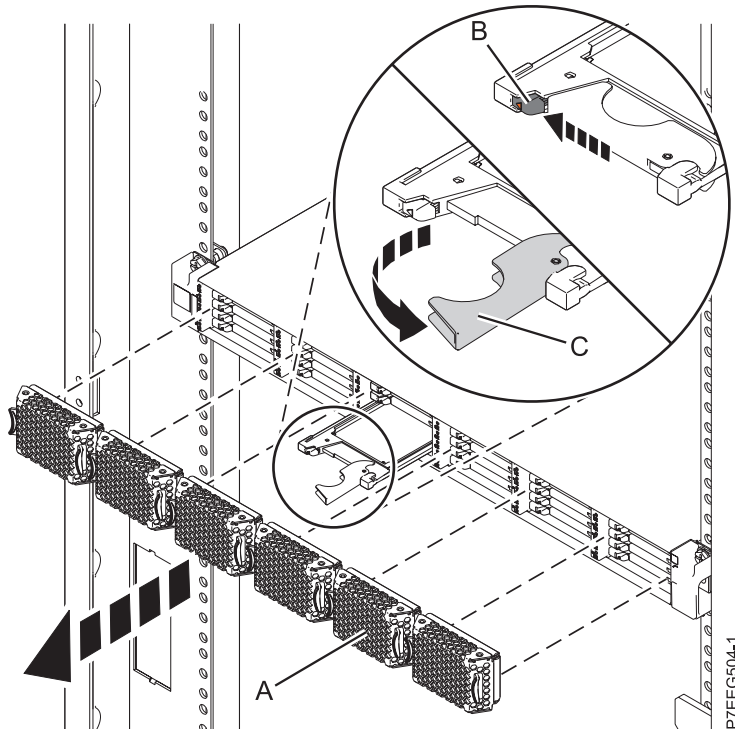

Figure 18. Removing the solid-state drive from the EDR1 PCIe storage enclosure
4. Pull off the bezel (A) that covers the slot that contains the solid-state drive.
5. When the solid-state drive identify LED turns on solid, slide the release latch (B) over gently to unlock the drive handle. See Figure 18 on page 32.
6. Grasp the handle (C) and pull the drive partially out of the slot.